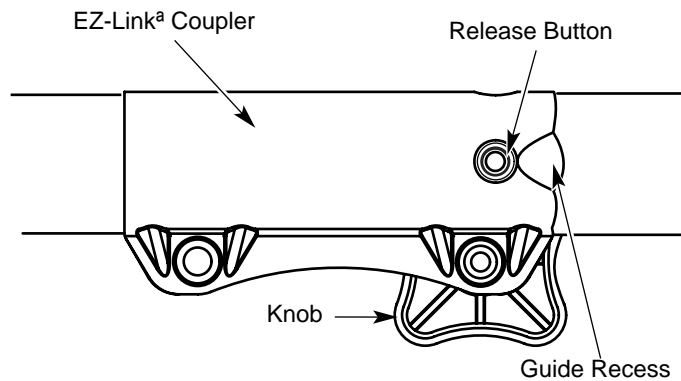

Fig. 24
- NOTE: Aligning the release button with the guide recess will help installation (Fig. 24).
- Turn the knob clockwise to tighten (Fig. 24).
- Turn the knob counterclockwise to loosen (Fig. 24).
- Press and hold the release button (Fig. 24).
- Turn knob counterclockwise to loosen (Fig. 24).